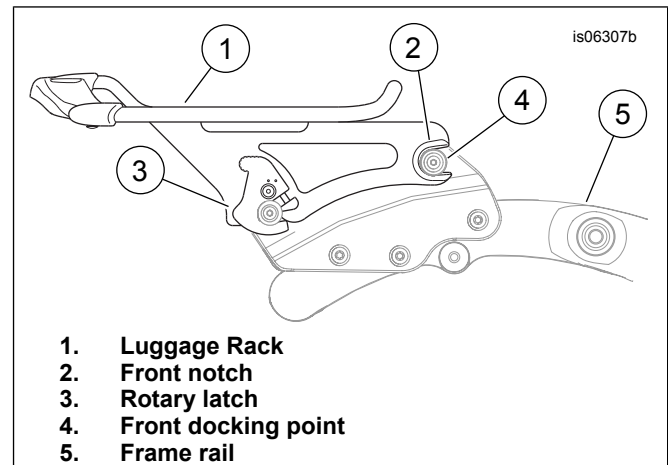
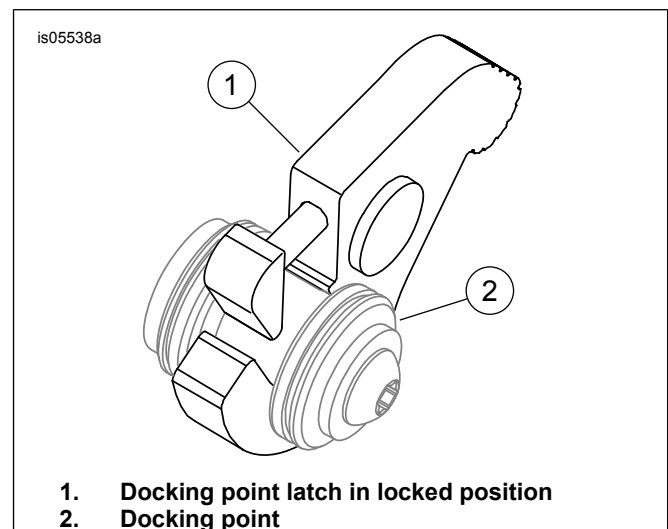

Figure 1. Luggage Rack
Figure 2. Latch and Docking Point
2. See Figure 1. While standing behind the motorcycle, place the rack side plate notches (2, with bushings in place) onto the forward docking points (4). Make sure the notch bushings seat fully into the forward docking points.
3. Position the rotary latches (3) over the rear docking points.
4. See Figure 2. Check to be sure the rotary latches (1) fit into the neck of the rear docking points (2) as shown. This may require some gentle squeezing or spreading of the side plates.
The docking points must be fully engaged. See Figure 1 and Figure 2 for correct engagement. If docking points are not fully engaged rack could shift position or come loose during operation.